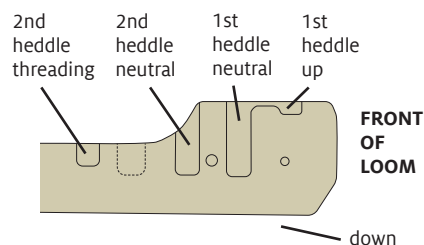

FIGURE 15: HEDDLE SLOTS
9. Place the heddle in the 1st heddle neutral slot (Figure 15). Find the center of the heddle and then measure out to one side half the width of your warp. For example, if your warp is 10" wide, measure out 5" from the center and begin threading at this point. (You can thread from right to left or left to right.)